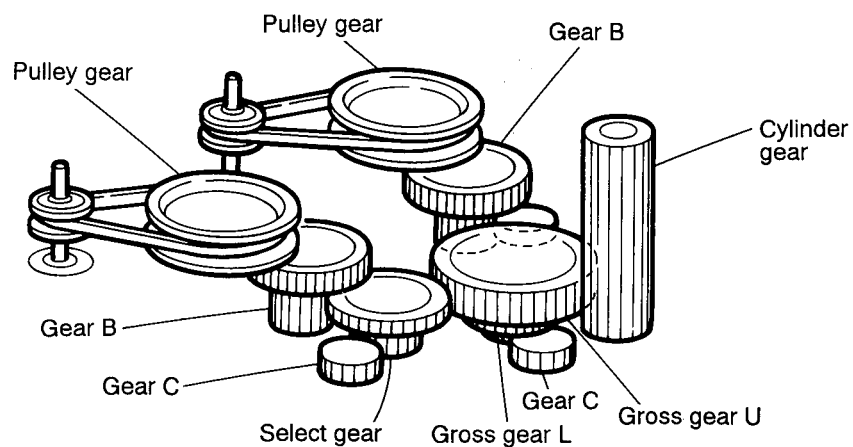

Fig. 2-31
4. Remove the belts respectively from the right and left actuator motor pulleys and pulley gears (See Fig. 2-31).
**[Note]** When the chassis assembly is turned over under the conditions wherein the gear bracket and belt have been removed, then the pulley gear as well as the gear, etc. constituting the gear unit can possibly be separated to pieces. In such a case, assemble these parts by referring to the assembly and configuration diagram in Fig. 2-31.